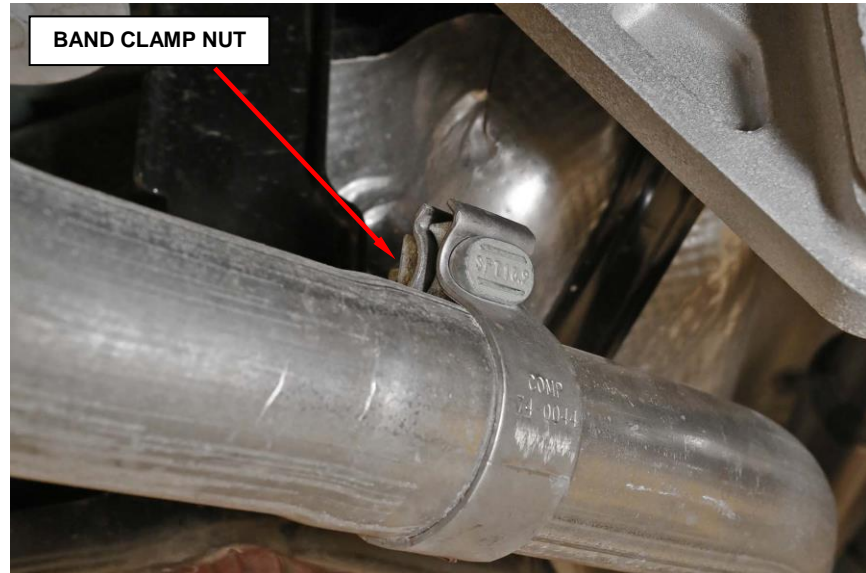

Figure 6 – Muffler Band Clamp
1. Loosen the exhaust muffler band clamp nut (Figure 6).
7. Tighten the exhaust clamp nut to 16 N·m (12 ft. lbs.) (Figure 6).